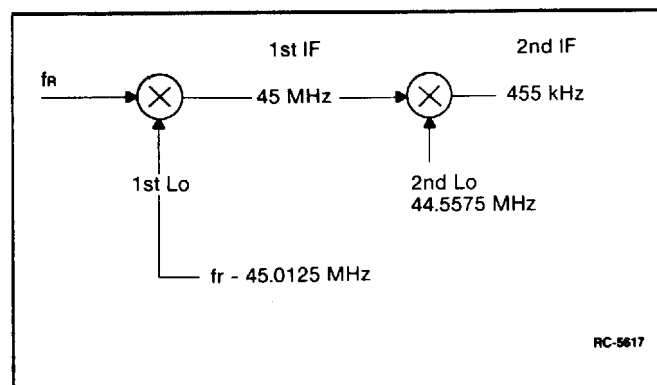

Figure 7 - Frequency Relationship Diagram
- a. Level Diagram: A Frequency Relationship Diagram is shown in Figure 7 and a Typical Level Diagram is shown in Figure 8.
d. The signal from the Radio Board is applied to the System Board at P101-4 and then to the speaker through A13-C, A201, A202-A and A15. Check distortion at each point shown in Figure 7.